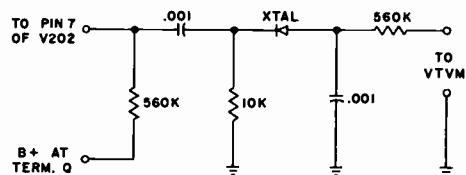

Figure 11—Sound Diode Detector
- VACUUM TUBE VOLTMETER Connect to output of diode detector shown in Figure 11. Set meter for negative voltage readings.
- MISCELLANEOUS Connect test diode detector, see Figure 11, to pin 7 of V202. Refer to Figure 20 for adjustment locations.